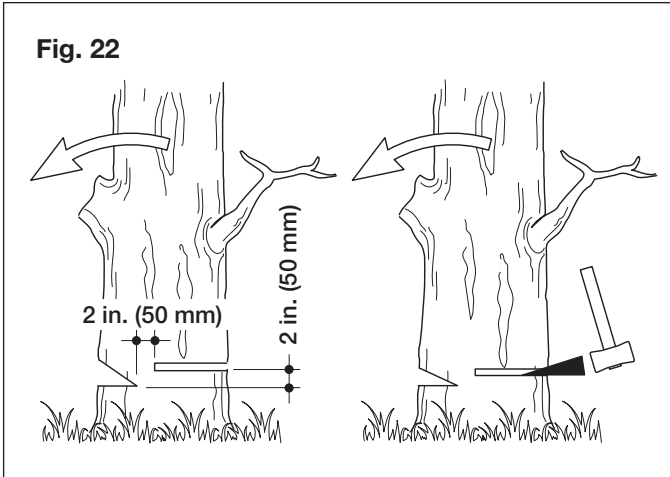

Fig. 22
Make the notch 1/3 the diameter of the tree, perpendicular to the direction of falls as illustrated (Fig. 22).
- i) Make the felling back cut at least 2 in. (50 mm) higher than the horizontal notching cut as illustrated (Fig. 22). Keep the felling back cut parallel to the horizontal notching cut. Strategically position the felling back cut so that enough wood is left to act as a hinge. The hinge wood keeps the tree from twisting and falling in the wrong direction. Do not cut through the hinge.